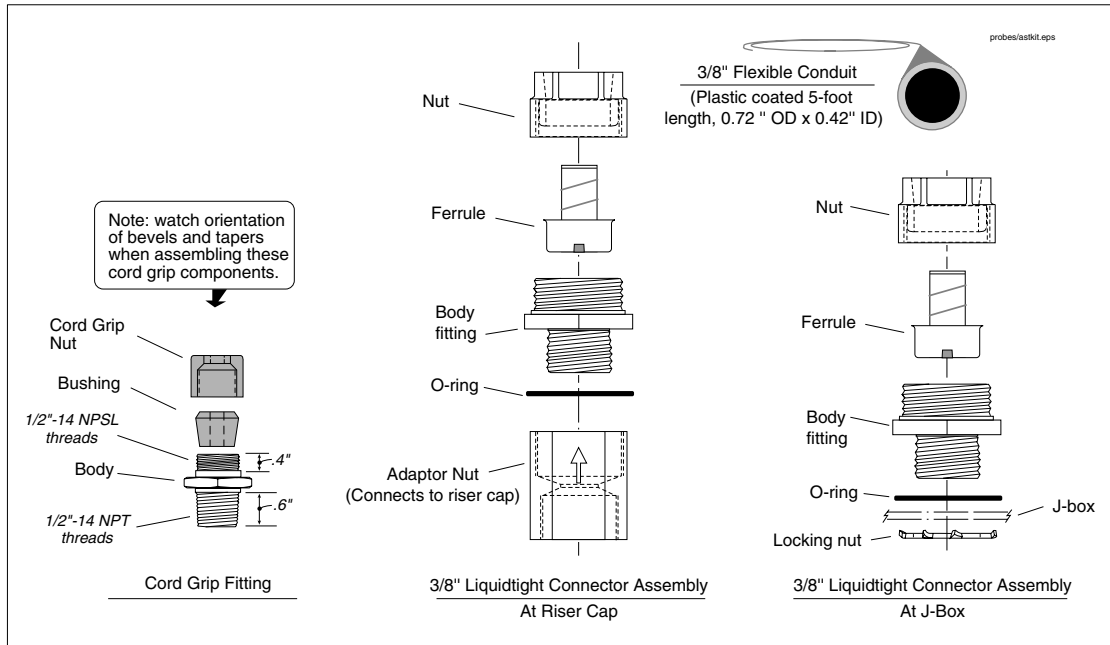
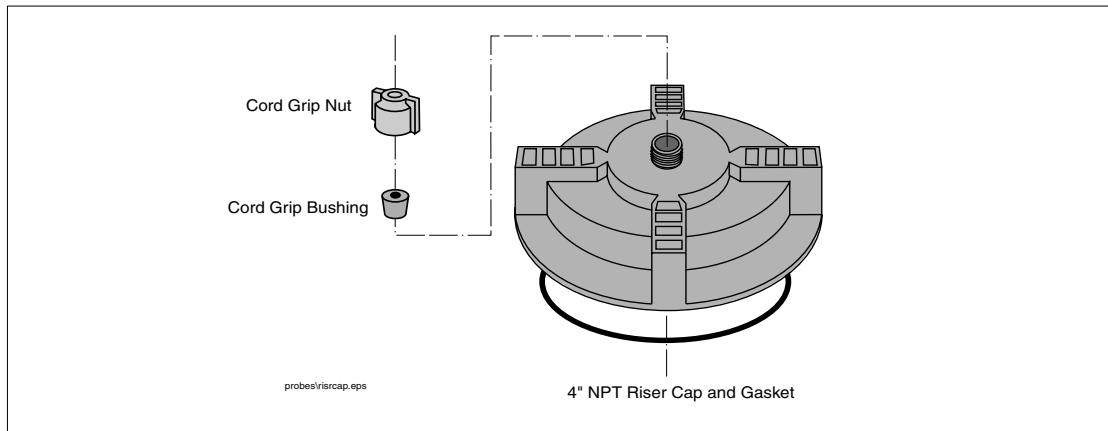
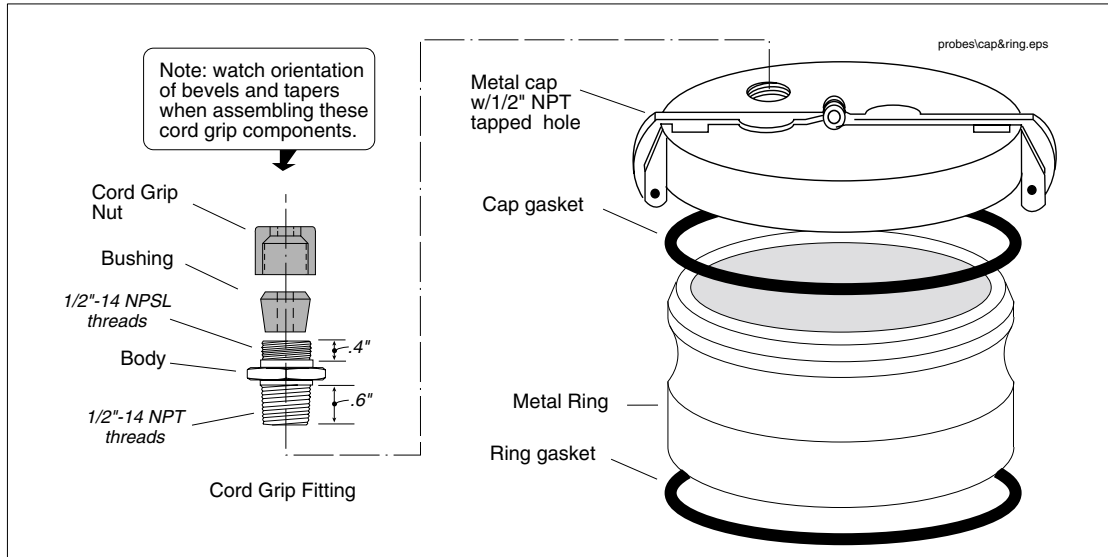

Figure 10. Mag Probe Installation Kit
Figure 11. Cap and Cord Grip Kit
Figure 12. Metal Cap and Ring Kit
This kit is recommended when installing Mag Probes into an aboveground tank. This kit contains a length of flexible conduit, connectors, etc., for easier probe access. The kit contents are listed in Table 1 and shown in Figure 10.
This Riser Cap kit (Table 2) contains a non-metallic cap which screws onto the 4” NPT riser (Figure 11). The cap comes drilled and tapped with a cord grip.
This riser cap kit contains a metal ring which screws onto the 4”NPT riser and a quick-release metal cap which clamps onto the ring (Table 3). The cap comes drilled and tapped with a cord grip (Figure 12).
1. If you are using the one piece cap (see Figure 11 on page 16), push the end of the probe cable through the cap and cord grip bushing, leaving a minimal amount of slack between the probe and cap. Discard the cord grip nut and attach the Adaptor Nut from the AST kit to the cap (see Figure 10 on page 15). Tighten the Adaptor Nut until the cable is held firmly. Go to Step 3.
2. If you are installing the metal cap and ring (see Figure 12 on page 17), screw the ring onto the 4" riser until the gasket contacts the pipe, then use a pipe wrench to tighten it an additional 3/4 turn. Using UL-classified pipe sealant (suitable for the fuels involved), screw the cord grip fitting into the tapped hole and tighten. Place the cord grip bushing in the fitting. Discard the cord grip nut and loosely screw the Adaptor Nut from the AST kit onto the cord grip fitting (Figure 10). Push the cable through the metal cap, bushing, and Adaptor nut, then clamp the cap onto the ring. Make sure there is a minimal amount of slack between the probe and cap, then tighten the Adaptor Nut until the cable is held firmly.
3. Next assemble the liquidtight connectors on both ends of the flexible conduit as shown in Figure 10. Push the cable through the flexible conduit assembly and into the J-box. Connect the flexible conduit assembly to the Adaptor Nut on one end and the J-box on the other.